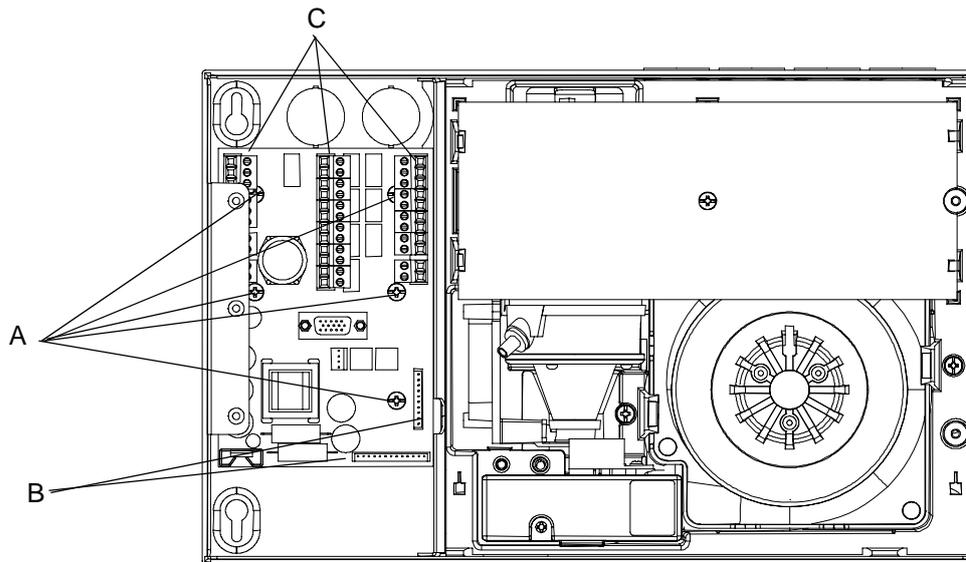

Figure 13: Replacing VLP/VLS head termination cards
2. Remove all terminal plugs (C) from sockets, leaving the wires attached to the plugs, refer to Figure 13 below.
3. Remove the 10 wire and 13 wire cable looms from their socket (B) in Figure 13 below.
4. Remove the five Phillips head screws (A) in Figure 13 below.
6. Attach the Termination Card with five Phillips head screws (A).
7. Reattach the 10 wire and 13 wire cable looms to the sockets. (B) The connectors can only be inserted into the socket one way. Turn the connector around if the connector does not fit into its socket.
8. Reconnect the terminal plugs to their sockets, ensuring the plugs are connected to their correct socket (C).